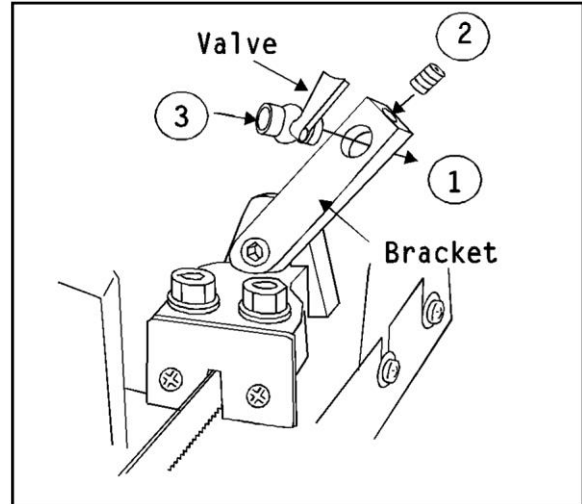

Figure 7: Installing valve in valve bracket
Refer to sect. 12.4.1 for a complete view of the components in the coolant kit, and refer to *Figure 7* for the attachment of the valve to the valve bracket on the guide bearing seat.
5. Install the valve, back end first, into the bracket (Figure 7).